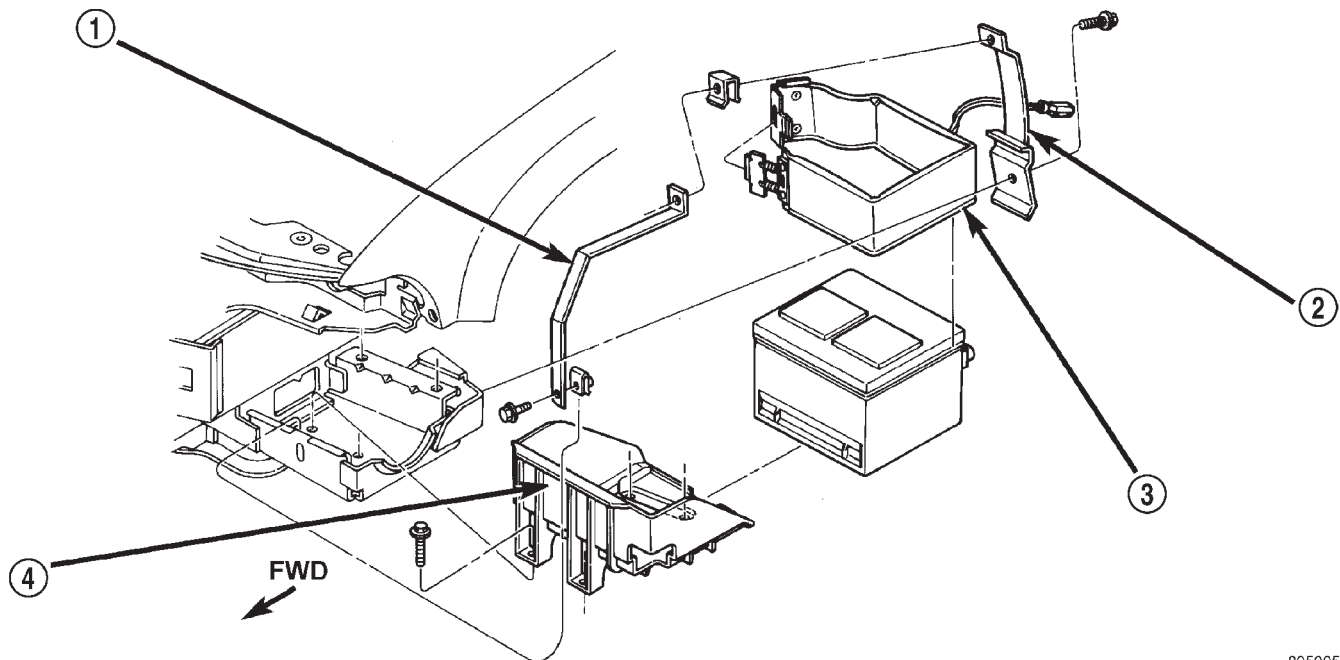

Fig. 13 Battery Tray Removal
(1) Remove battery, refer to Battery Removal procedures above.
(2) Remove the battery tray attaching bolts (Fig. 13).
(3) Remove battery tray.
(4) Remove battery strap.